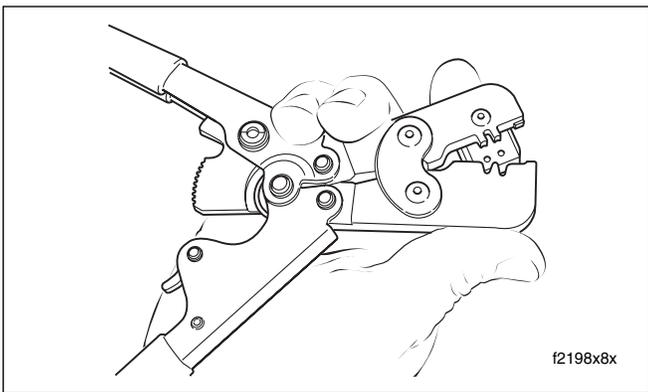

Figure 8-30. Raise Locking Bar and Barrel Holder
5. Raise locking bar and barrel holder by pushing up on bottom tab with index finger. See Figure 8-30.